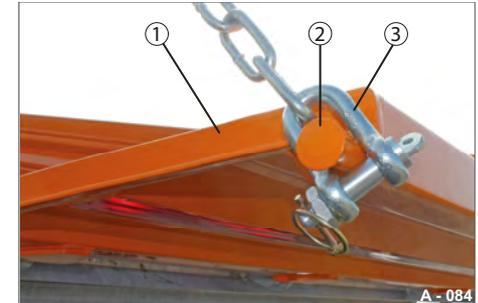

Fig. 85 Rear platform gate secured
- ▶ Raise the rear platform gate (Fig. 85/1) in a horizontal position.
- ▶ Place the U-bracket (Fig. 85/3) on the bearing pin (Fig. 85/2).